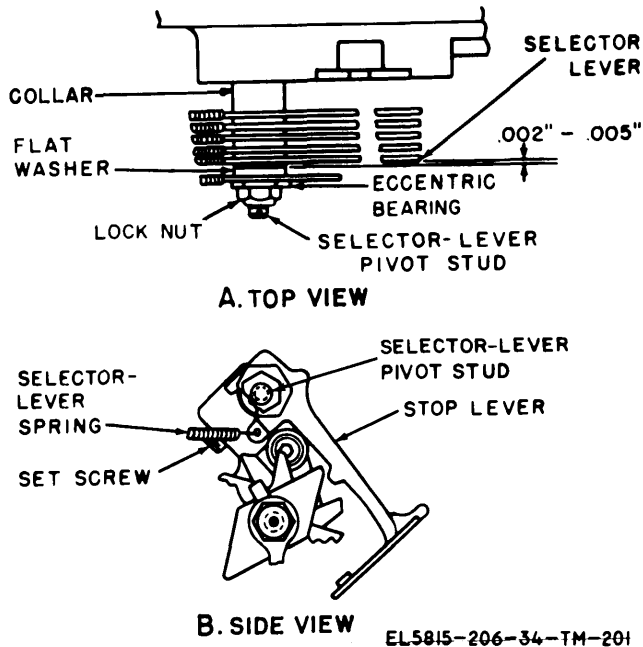

Figure 3-129. Selector-lever adjustment.
*a. Requirement.* There should be a 0.002- to 0.005-inch clearance between the flat washer and the first selector lever (A, fig. 3-129).
*b. Adjustment.* Loosen the setscrew (B, fig. 3-129) in the casting; slide the selector-lever pivot stud in or out to meet the requirement; and tighten the setscrew.